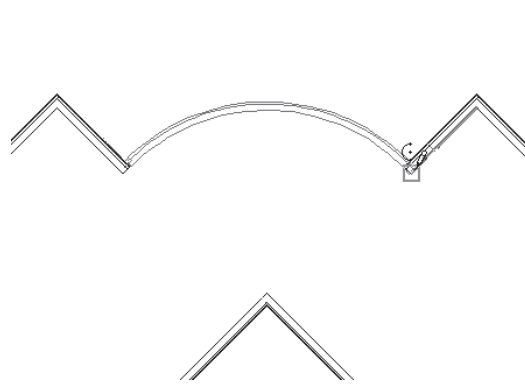
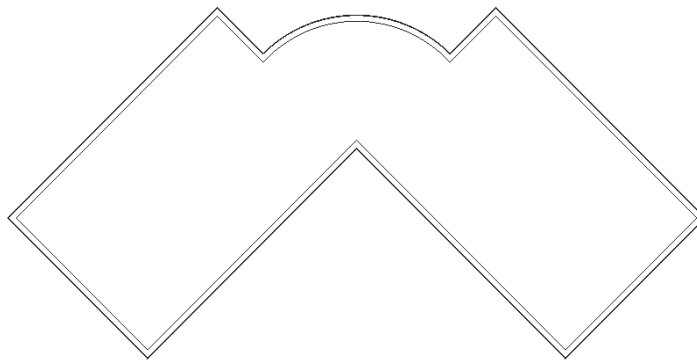

Figure 3-47 Completing the curved wall segment
Figure 3-48 Completed layout of the exterior walls for the Club project
3. Move the cursor toward the right and click when the object snap for the intersection of the curved wall and the inclined wall is displayed, as shown in Figure 3-47. The completed exterior wall profile is shown in Figure 3-48.